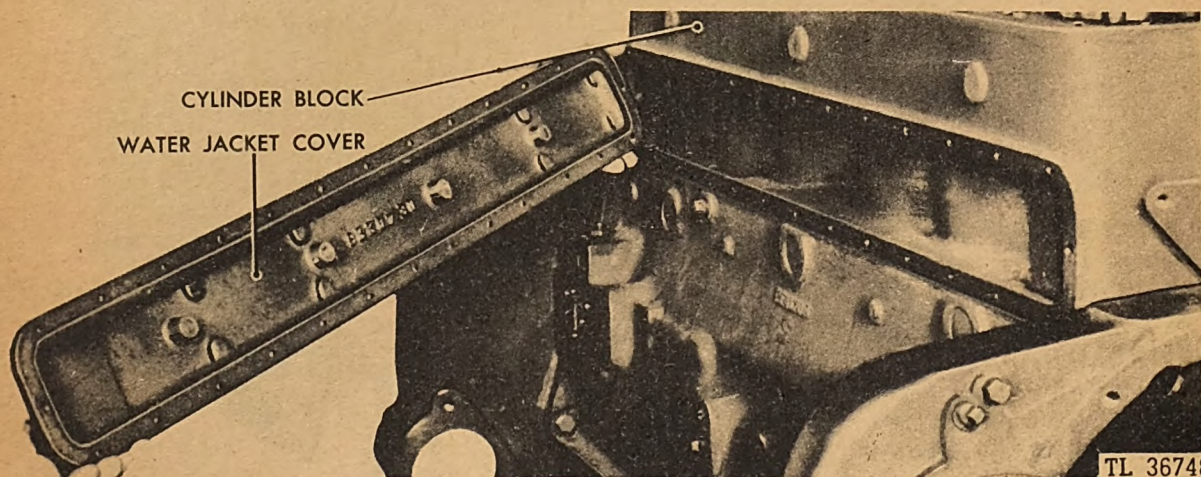

Fig. 96. Removing Water Jacket Cover
k. *Removing Water Jacket Cover.* Unscrew the 28 capscrews holding the water jacket cover to the cylinder block. Lift off the cover. (See Figure 96.) Check inside the block for scale formation.